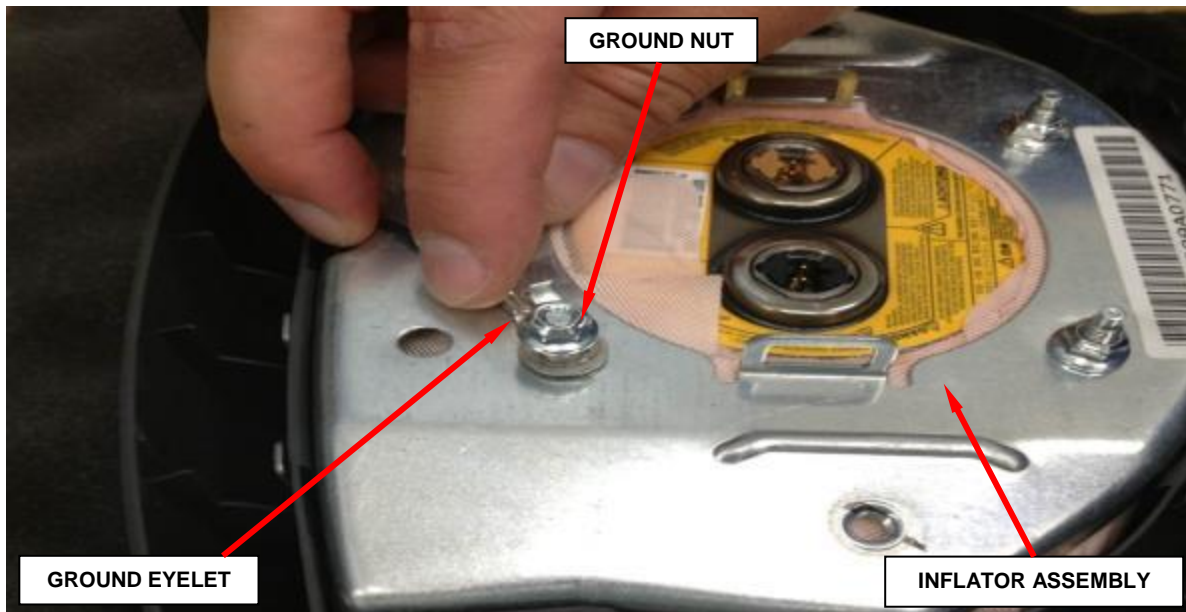

Figure 12 – Ground Eyelet to Inflator Assembly
19. Install the ground eyelet on the upper left stud (Figure 12).